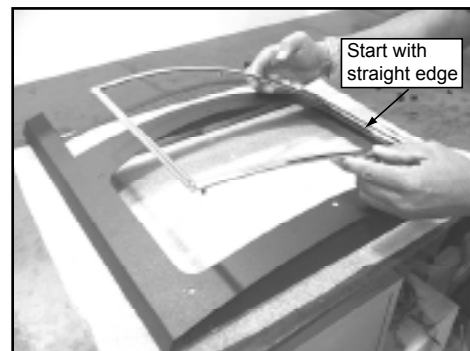

Figure 20.3
5. Turn the face over so it is front side up. Locate studs on the trim ring. Starting with one straight side of trim ring, insert the studs into the holes in the face. After the first 2 studs have dropped into their holes, carefully lay the trim ring down until all of the studs are in place. **Figure 20.3.**